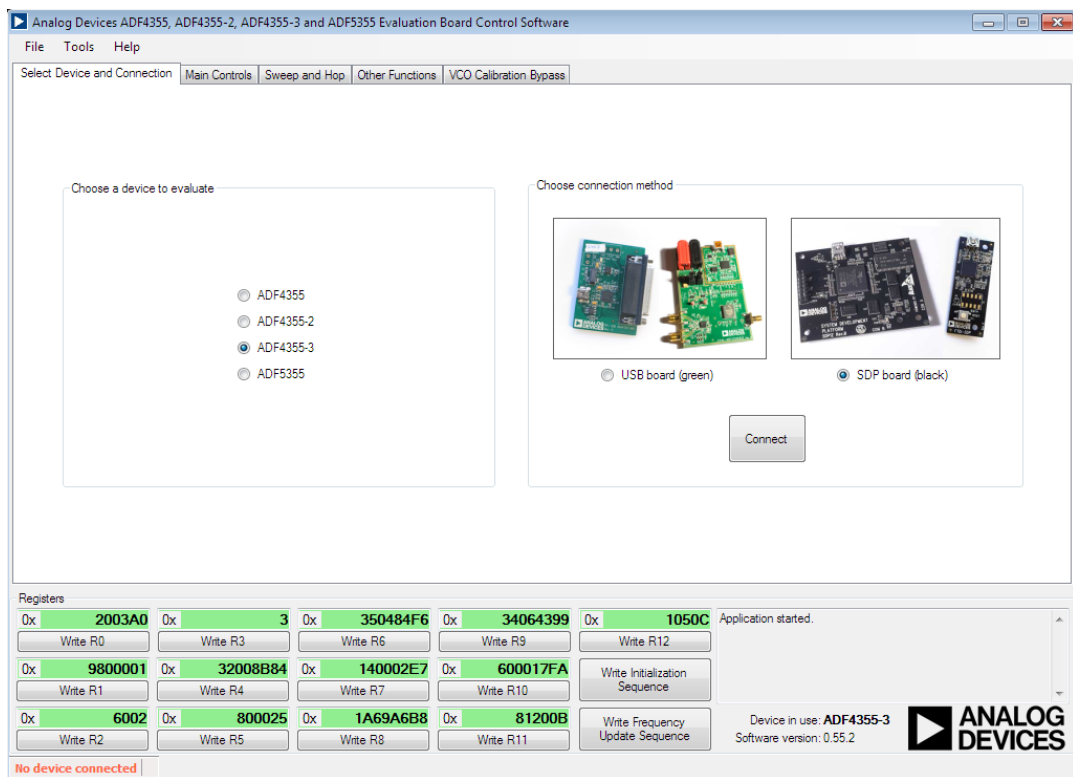

Figure 2. Software Front Panel Display—Select Device and Connection
2. On the **Select Device and Connection** tab, choose **ADF4355-3** and **SDP board (black)**, and then click **Connect** (see Figure 2).
8. Select **ADF4355-3** and **SDP board (black)** in the **Select Device and Connection** tab of the software front panel display window (see Figure 2).